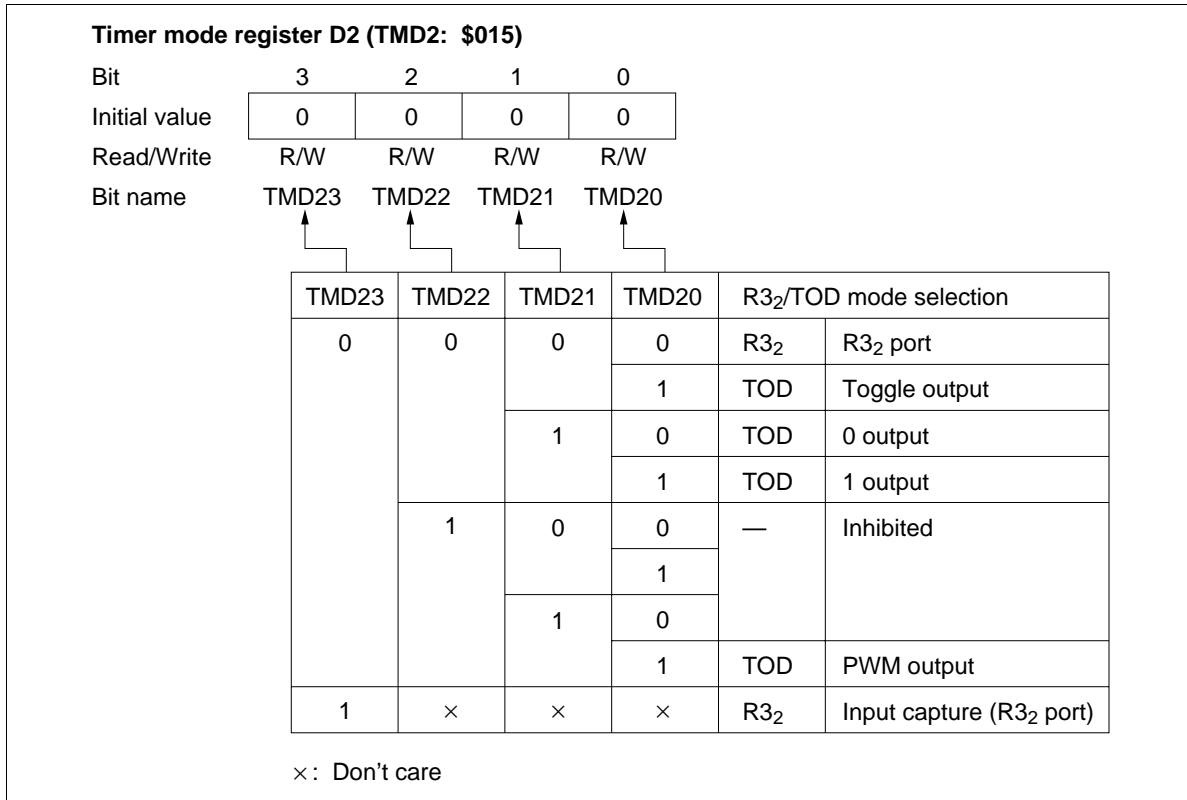

Figure 42 Timer Mode Register D2 (TMD2)
- Timer mode register D2 (TMD2: \$015): Four-bit read/write register that selects the timer D output mode and input capture operation as shown in figure 42. It is reset to \$0 by MCU reset.